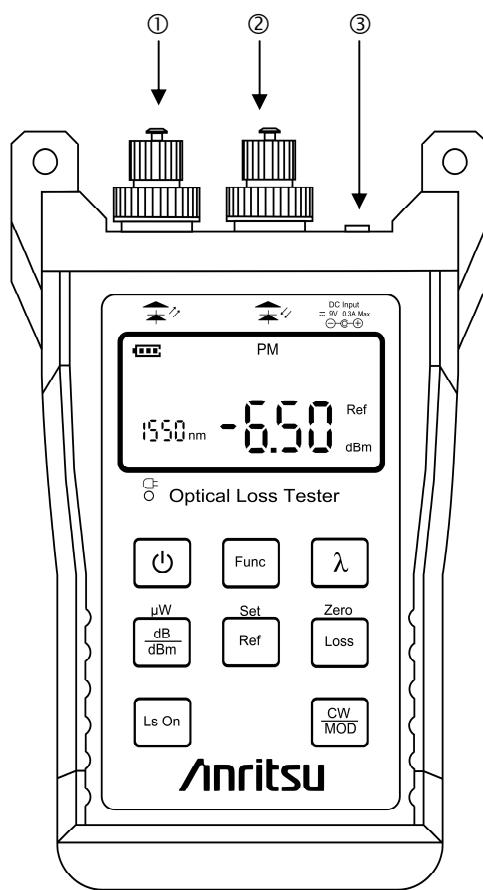

Figure 2 CMA5 Series Optical Loss Tester Operating Controls
| 5LT83 | 1 | 0.66 | CW | 850 | 23.0 | Figure 2 ① |
| 5LT83 | 1 | 1.41 | CW | 1300 | 23.0 | Figure 2 ① |
| 5LT35 | 1 | 1.41 | CW | 1310 | 11.5 | Figure 2 ① |
| 5LT35C | 1 | 1.41 | CW | 1550 | 11.5 | Figure 2 ① |
1. Output Connector (Laser Aperture) (See Figure 2-①.)
① Optical output port (CMA5 Series Optical Loss Tester is supplied with one connector adapter (FC, SC, or ST) as a standard accessory).
2. Input Connector (Laser Detection) (See Figure 2-②.)
② Optical input port (CMA5 Series Optical Loss Tester is supplied with one connector adapter (FC, SC, or ST) as a standard accessory).
3. External Power Jack (See Figure 2-③.)
1. This procedure requires two patch cords and an in-line adapter. Refer to figure 2 and attach one patch cord to the output connector and the other patch cord to the input connector of the unit. Use the in-line adapter to connect the two patch cords together.